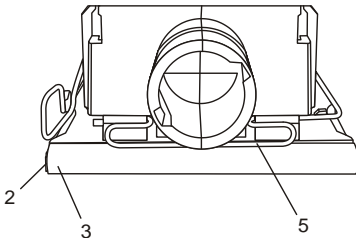

Fig. 5
3. Wrap the sandpaper sheet (3) over the backing pad (2) and insert it into the open rear sandpaper clamp (5) (Fig. 5).